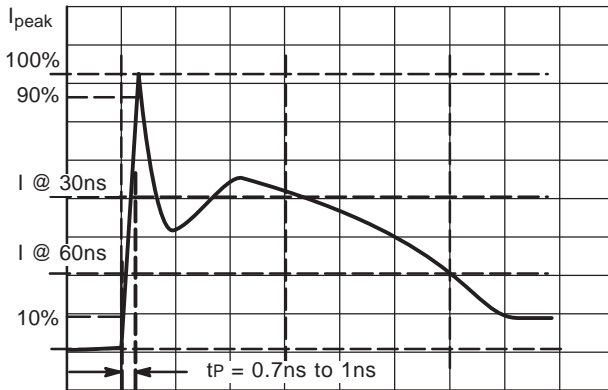

Figure 3. IEC61000-4-2 Spec
4. For test procedure see Figures 3 and 4.